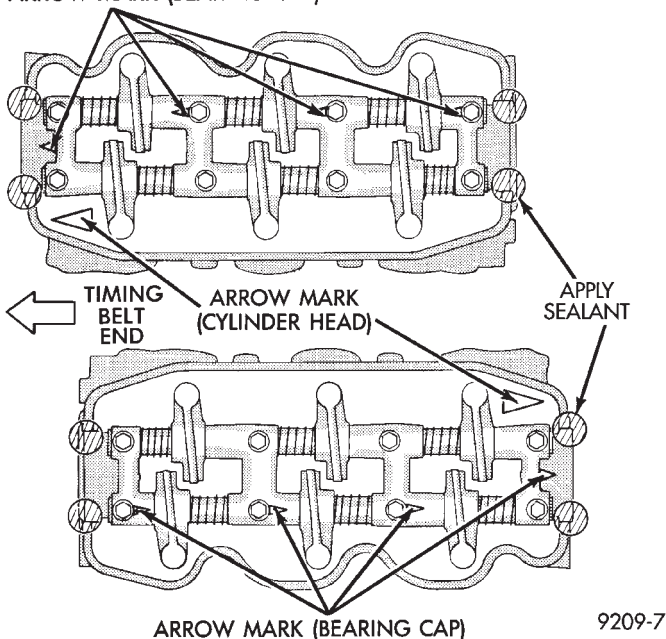

Fig. 8 Camshaft Bearing Caps Position
(1) Align the camshaft bearing caps with arrows (depending on cylinder bank) directed as shown in (Fig. 8) and in numerical order.
Install the rocker arms, bearing caps and springs. **Springs are the same and can be used at all locations** on the rocker arm shafts (Figs. 8 and 10). Insert bolts in number four bearing cap to retain assembly.
(1) Apply Mopar Silicone Rubber Adhesive Sealant at bearing cap ends as shown in (Fig. 8).
(2) Install the rocker arm shaft assembly making sure that the arrow mark on the bearing cap and the arrow mark on the cylinder head are in the same direction (Fig. 8).